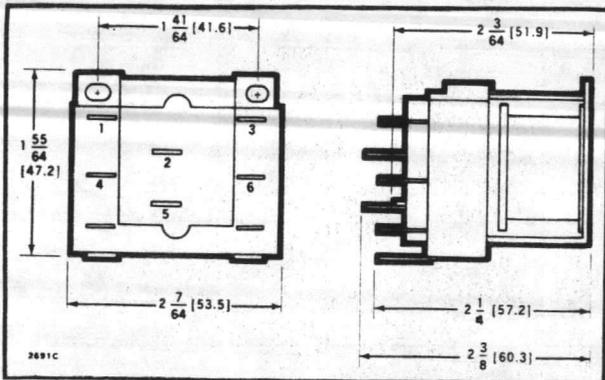
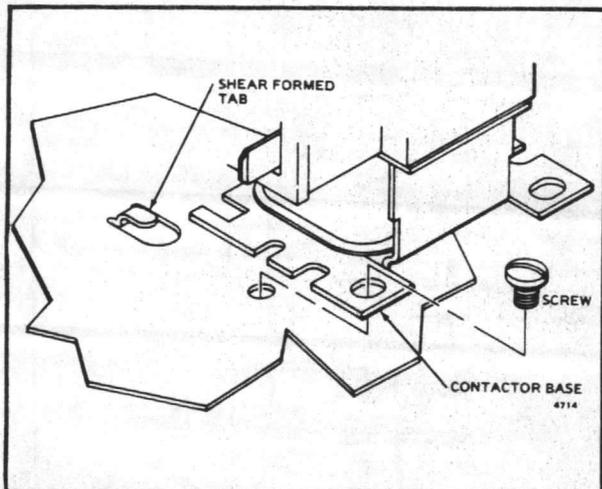

FIG. 1—RELAY DIMENSIONS IN in. [mm IN BRACKETS].
FIG. 3—MOUNTING RELAY ON PANEL WITH SHEAR-FORMED TAB AND ONE SCREW.
**DIMENSIONS:** See Fig. 1.
Mount the relay on a flat, solid surface as close as possible to the equipment being controlled. *The relay may be mounted in any position except with the terminals pointed down.* Secure in place with two screws through holes or slots in the mounting base or as shown in Fig. 3 or 4. See Fig. 1 for mounting dimensions.